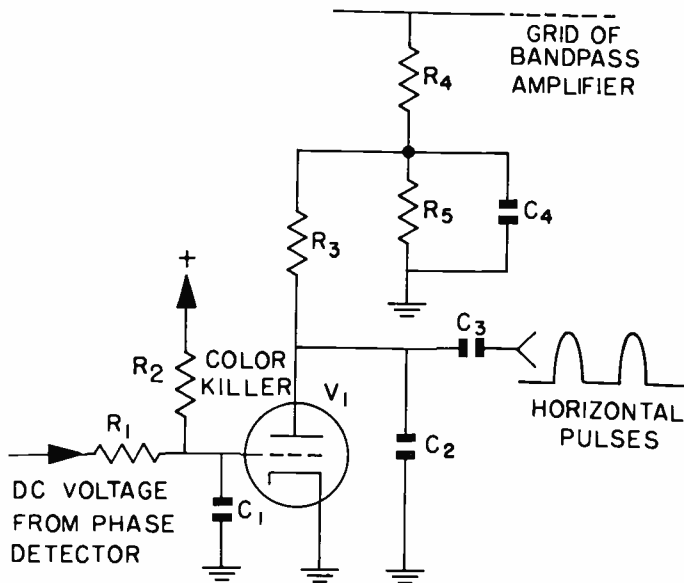

Fig. 7. Simple color killer circuit.
A simple color killer circuit is shown in Fig. 7. Triode V_1 operates like a keyed agc circuit. The positive horizontal pulses from the horizontal sweep output are applied to the plate of V_1 through capacitor C_3 . The tube conducts heavily during each horizontal pulse because the grid is at approximately zero potential. When the tube conducts, plate current flows through R_3 and R_5 to ground, producing a negative voltage at the junction of R_4 and R_5 . The current pulses are filtered by C_2 , R_3 , and C_4 . The negative voltage is applied through R_4 to the grid of the bandpass amplifier, cutting off the tube. This is the condition that exists when a black-and-white picture is being received.
the phase of the signal produced by the 3.58-mc oscillator) produces a negative voltage that is fed through R_1 (Fig. 7) to the control grid of the color killer tube. This negative voltage cuts off V_1 and prevents the horizontal pulses applied from causing the tube to conduct. This allows the bias on the bandpass amplifier to return to normal, and the stage amplifies the color signals.
Color killer circuits, like those shown in Figs. 7 and 8, have been used with minor variations in many color sets. These circuits have a serious disadvantage when operating with weak signals. The phase detector circuit tends to mistake noise pulses for color burst signals. Large noise pulses may cause the phase detector to produce a high enough negative voltage to bias the killer circuit to cutoff and let noise pass through the color circuits of the receiver. Other color killer circuits that are able to discriminate between noise and burst signals have been developed. These circuits usually have a separate killer detector stage, called a burst detector, in addition to the killer stage.
- What is the disadvantage of the simple color killer circuits shown in Figs. 7 and 8?